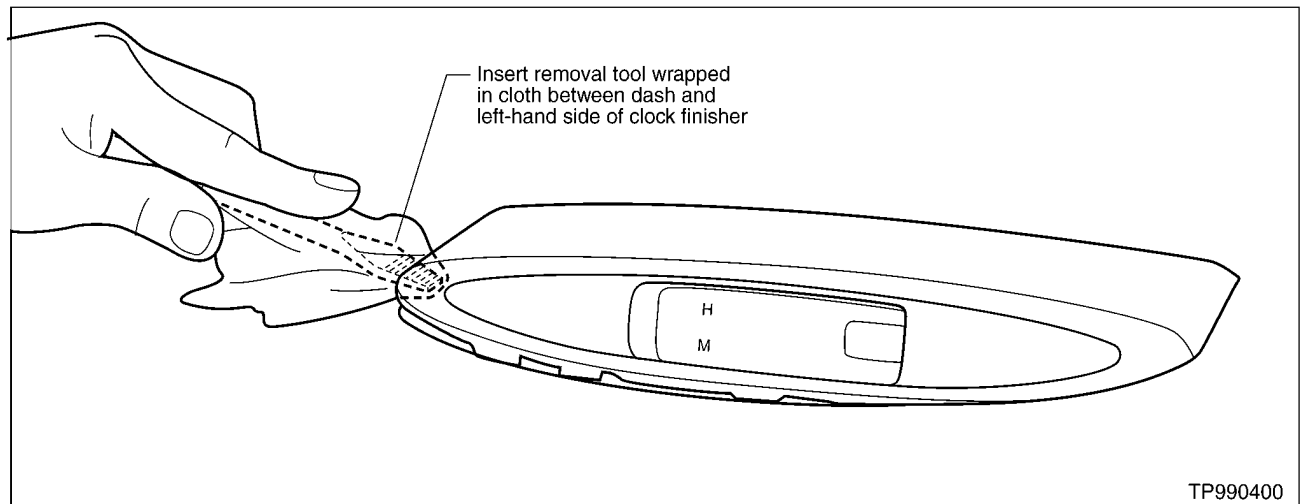

Figure 7
- A. Insert a removal tool wrapped in a clean cloth between the console and the left-hand side of the clock finisher (see Figure 7).